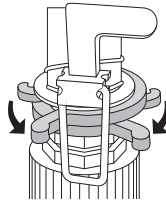

Fig. 7
- ♦ Decrease the distance between the two limiter clips **4** to decrease the dispersion of the water jet (see Fig. 7).